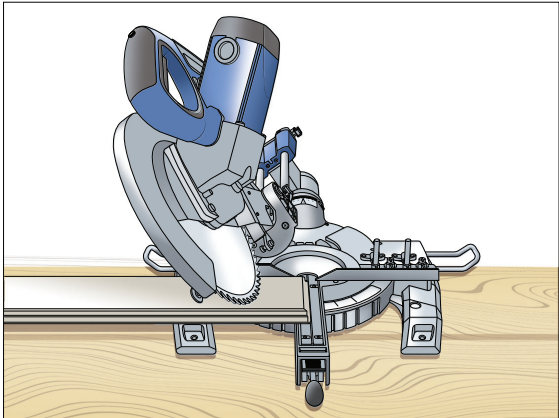

Figure 7g. Outside corner left-hand miter cut: Feed board face down with top edge away from fence. See below for cutting other orientations.
- Feed from the left. Place the board face down with top edge away from saw fence (Figure 7g).